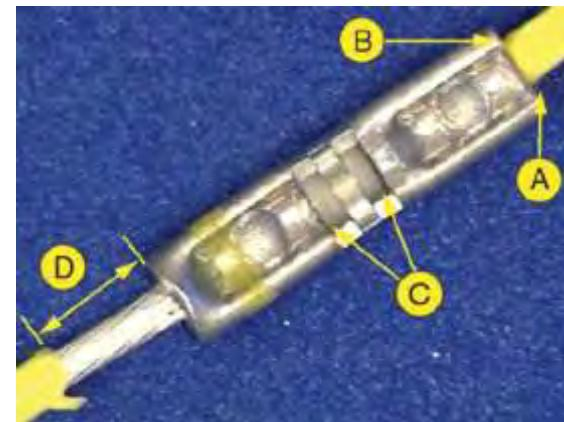

Figure 177
- b. Wire insulation does not extend into the wire crimp barrel (see Figure A of Figure 177).
- c. Crimp indent is not off the end of the splice (see Figure B of Figure 177).
- d. Wire end(s) are visible through the inspection window(s) (see Figure C of Figure 177).
- e. Wire insulation gap is not greater than 2 wire diameters including insulation (see Figure D of Figure 177).